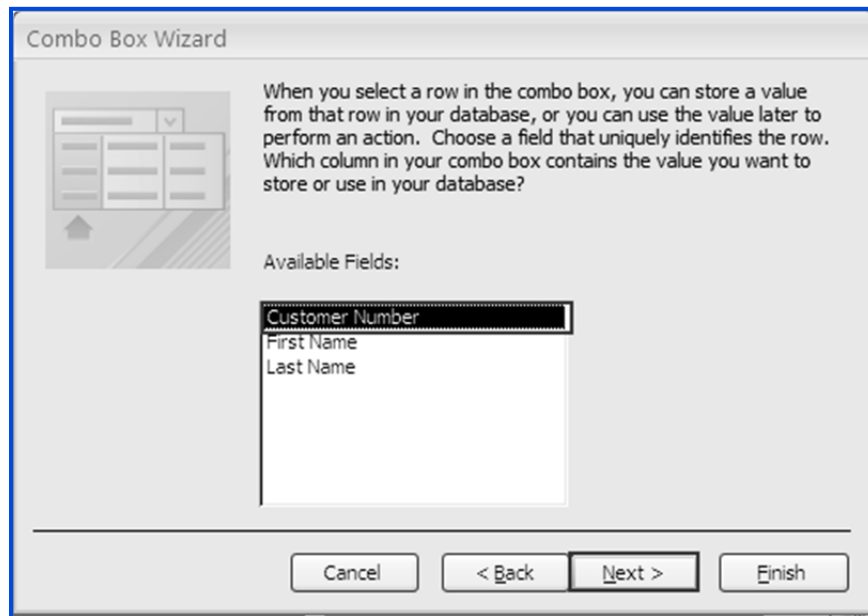

Fig. 2.2.19. Select Field to be stored in Table
9. The next window confirms a unique value to be stored in table. Select *Customer Number* and click *Next*, as indicated in Fig. 2.2.19.